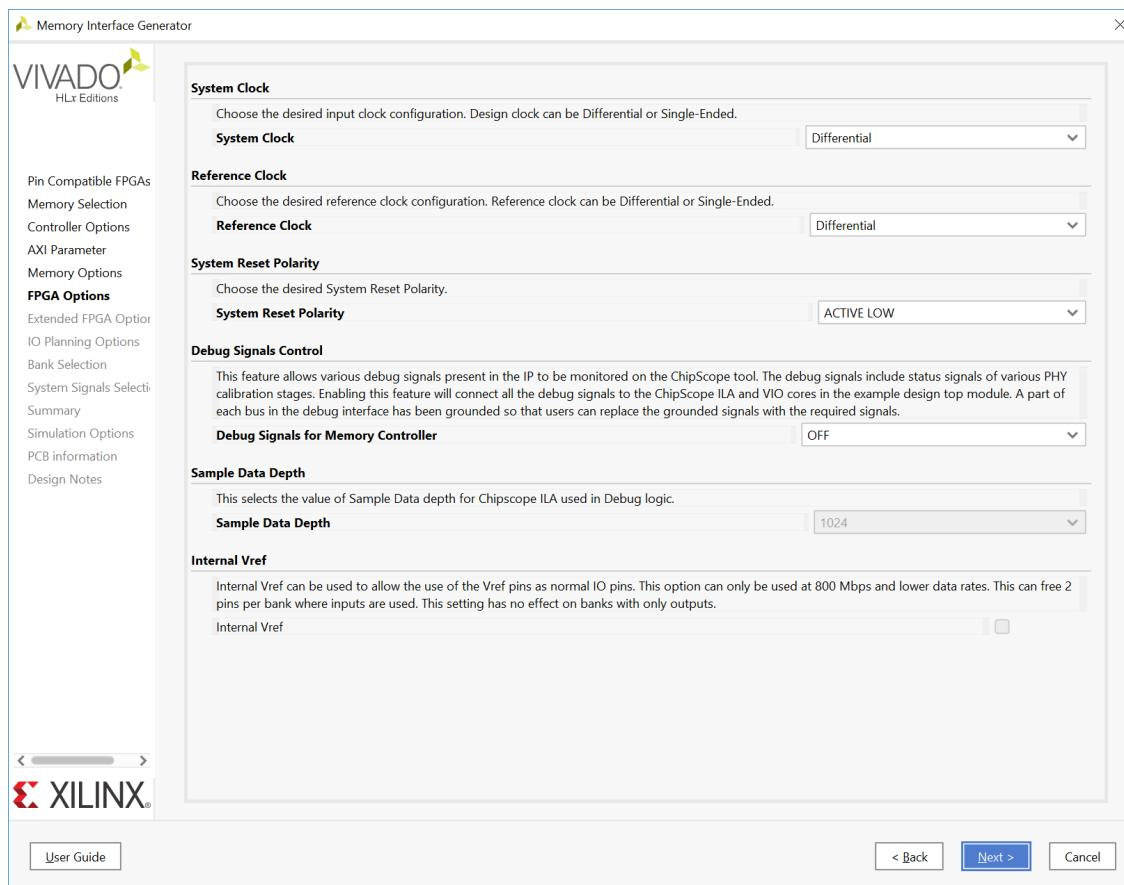

Figure 3-20: **FPGA Options Page**
Figure 3-20 shows the **FPGA Options** page.
- **sys_clk** – This is the system clock input for the memory interface and is typically connected to a low-jitter external clock source. Either a single input or a differential pair can be selected based on the **System Clock** selection in the **FPGA Options** page (Figure 3-20). The **sys_clk** input must be in the same column as the memory interface. If this pin is connected in the same banks as the memory interface, the MIG tool selects an I/O standard compatible with the interface, such as DIFF_HSTL_I or HSTL_I. If **sys_clk** is not connected in a memory interface bank, the MIG tool selects an appropriate standard such as LVCMOS18 or LVDS. The XDC can be modified as desired after generation.
- **clk_ref** – This is the reference frequency input for the IDELAY control. This is a 200 MHz input. The **clk_ref** input can be generated internally or connected to an external source. A single input or a differential pair can be selected based on the **System Clock** selection in the **FPGA Options** page (Figure 3-20). The I/O standard is selected in a similar way as **sys_clk** above.
- **sys_rst** – This is the asynchronous system reset input that can be generated internally or driven from a pin. The MIG tool selects an appropriate I/O standard for the input such as LVCMOS18 and LVCMOS25 for HP and HR banks, respectively. The default polarity of **sys_rst** pin is active-Low. The polarity of **sys_rst** pin varies based on the **System Reset Polarity** option chosen in **FPGA Options** page (Figure 3-20).